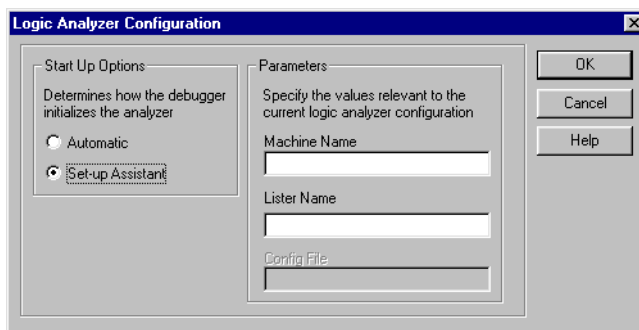

Figure B-11 Logic Analyzer Configuration dialog box
13. Click **Configuration** to display the Logic Analyzer Configuration dialog box (Figure B-11).